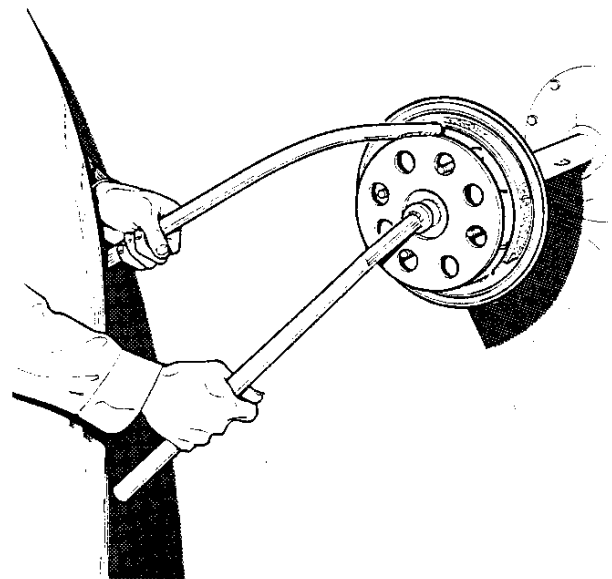

Figure 2 Slackening the half shaft nut (axle shown removed)
4. Using a plate to hold the hub, (**Figure 2**) remove the 5/8" UNF half shaft nut.